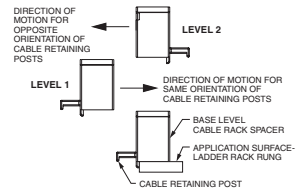

Figure 7
- 5) Repeat steps 2, 3, and 4 until a maximum stack height is achieved. Panduit recommends a maximum stack height of five for the CRS6-X and CRS1-X. A maximum stack height of four is recommended for the CRS1-125-X and CRS4-125-X. Stackable Cable Rack Spacers are reversible to allow cable retaining posts to be alternated (Figure 7).